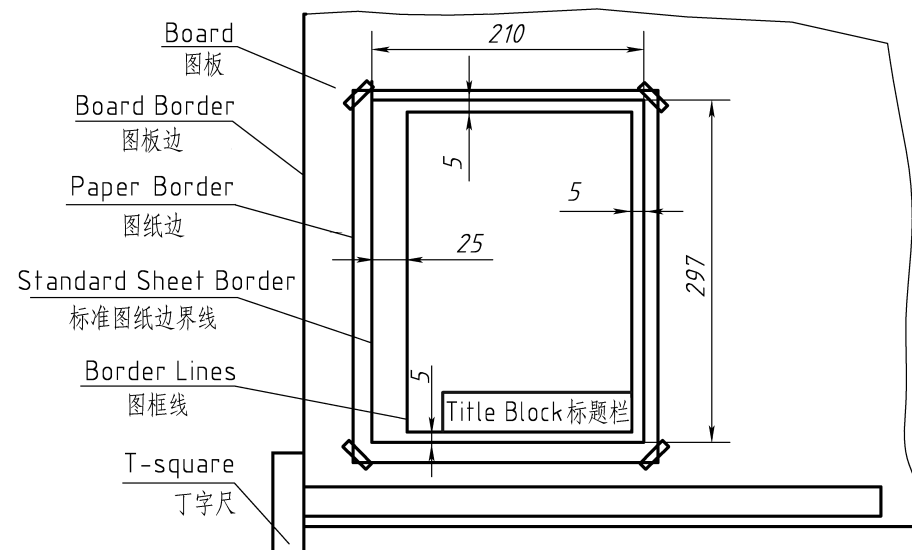
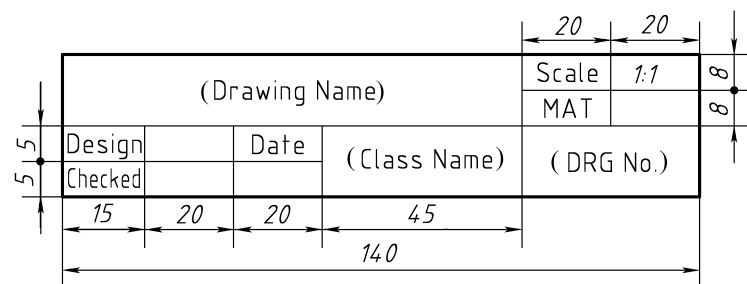

Fig. 4 Place the drawing sheet 放置图纸
Fig. 5 Title Block 标题栏
(1) Place the drawing sheet on the lower left of the board with gummed tape (Fig.4), then draw the boundary and title block on the lower right corner of the sheet according to the national standard (Fig.5). 将图纸用透明胶带固定在图板左下方(图4),然后按标准幅面画出边框线和图框线,并在图框的右下角画一标题栏(图5)。
(2) Draw the rough sketches using thin continuous lines and then finish them using thick continuous lines. In order to improve efficiency, you had better thicken curved lines first and straight lines later, and draw the same line styles at the same time. 先用细实线打好底稿，然后加深。加深时线型应按先曲后直的顺序进行，为了提高工作效率，对于同一类线型可一起完成。
(3) Dimension, lettering and check the drawing. 标注尺寸, 书写文字, 最后对全图进行校核。